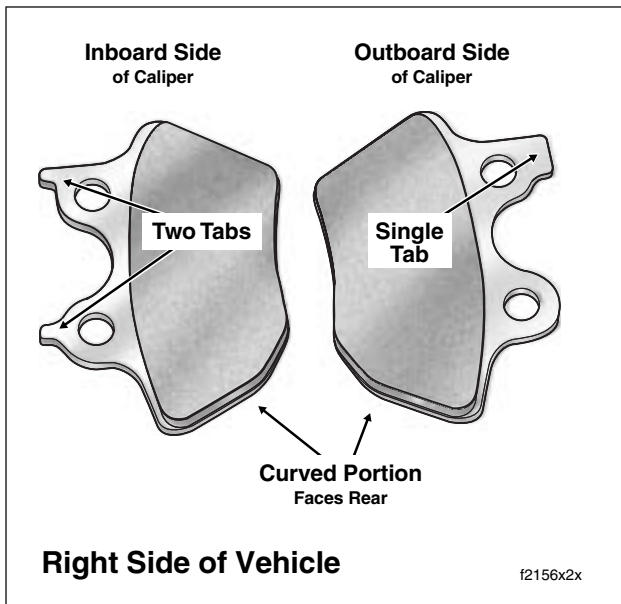

Figure 2-63. Rear Brake Pad Locations
7. Install **new** brake pads into caliper with the friction material facing the brake disc opening. Also, be sure that the pad is oriented so that the curved side faces the rear of the vehicle when the caliper is installed. See Figure 2-63.